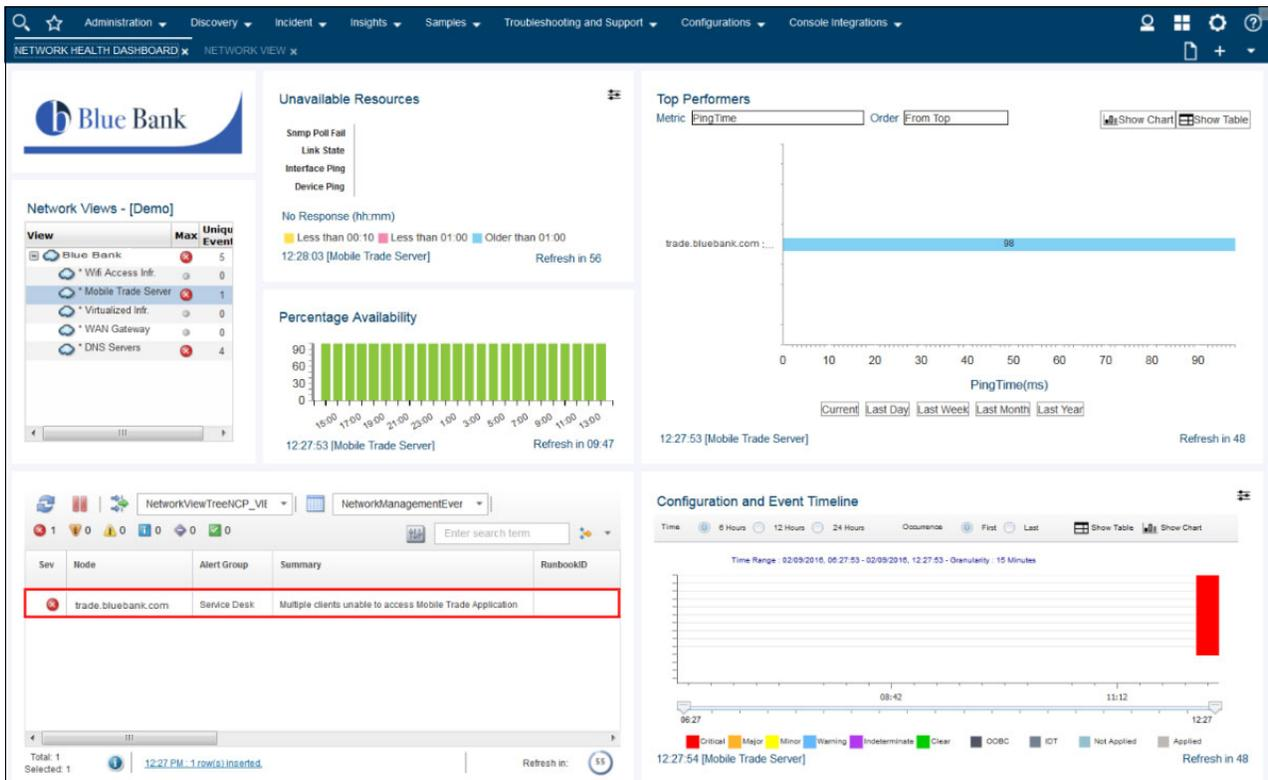

Figure 2-18 View Network events that are related to the Mobile Trade Server
- Annette sees that multiple clients cannot access the Mobile Trade server. She can isolate the events and network details that are related to this Service by clicking **Mobile Trade Server** under the Network Views, as shown in Figure 2-18.